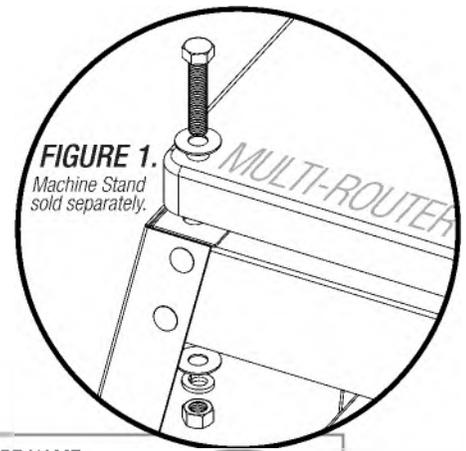

FIGURE 1.
3. The Multi-Router is bolted to a piece of plywood in the bottom of the carton. Cut the carton down around the machine, remove the nuts holding the machine to the plywood and set the machine on its stand or table. Use 1/2" hex-head bolts to attach the Multi-Router to the Machine Stand or your owner-supplied stand. Use a flat washer on top of the machine base and a flat washer, lock washer and nut on the bottom as shown. **FIGURE 1.**
4. In shipping, the stop collars are set to prevent table movement and the Table Locks are secured. You'll find it easier to install the Control Arms ① if you leave the tables locked in position. All three Control Arms are identical. Each one mounts to its table with a Pivot Bolt and to the Pivot Linkage.